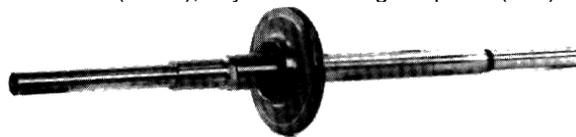

Fig. 70 - Shaft with first stage impeller
1. Before assembly of the rotor components, coat the shaft (210) with molybdenum disulfide.
2. Slip the shaft protecting sleeve (524.1) onto shaft (210) after inserting O-ring (412.3), and pull it tight against the shaft shoulder. Mount spacer sleeve (525.1), key and first stage impeller (230) onto shaft (210) (see Fig. 70).